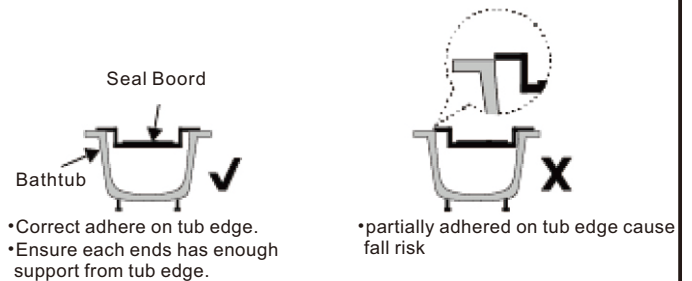

Fig.2
4. Check that the seat board is securely locked before use. The seat board cannot be placed asymmetrically relative to the bathtub edges, and the protections must not adhere or only partially adhere to the bathtub (Fig. 2).